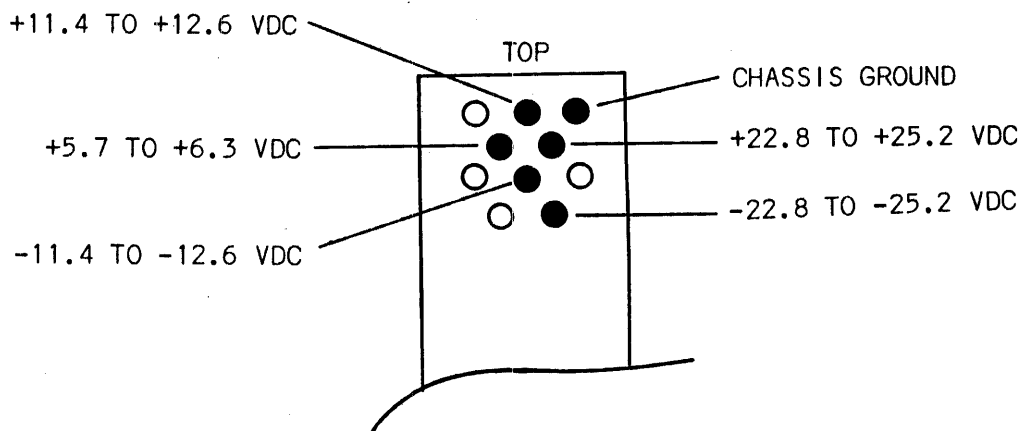

Figure 5-1. NIM Bin Connector, Dc Voltage Requirements
5-9. All maintenance controls are located on the ND812 Computer front panel, ND4410 Control Module front panel, or Teletype. Test points for dc voltage checks are shown in Figure 5-1. All other test results are oscilloscope displays or Teletype responses.
- c. Refer to Figure 5-1, and check for the indicated dc voltage at each connector in the bin. Dc voltages are shown with respect to chassis ground.